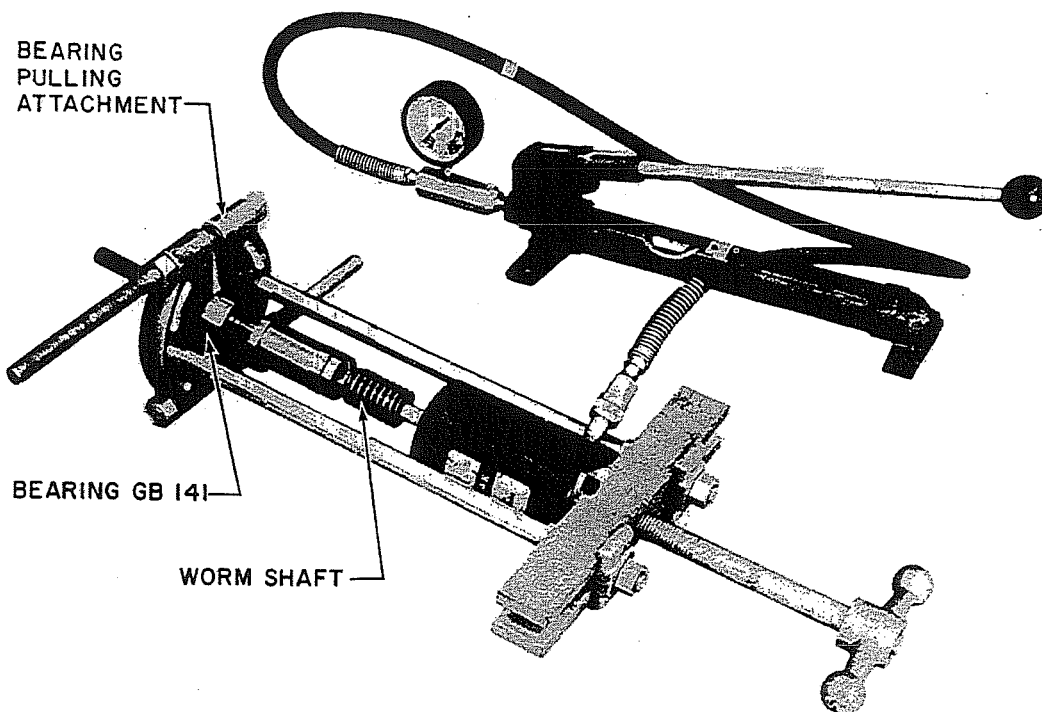

Figure 5. Worm Shaft, Installation of Bearing GB141
- H. Secure the bearing pulling attachment in front of Bearing GB141 and apply an approximate 2-ton push to the worm shaft (figure 5). The bearing must seat firmly against Spacer GB143. The shaft should be cleaned and lubricated prior to installing the bearing.